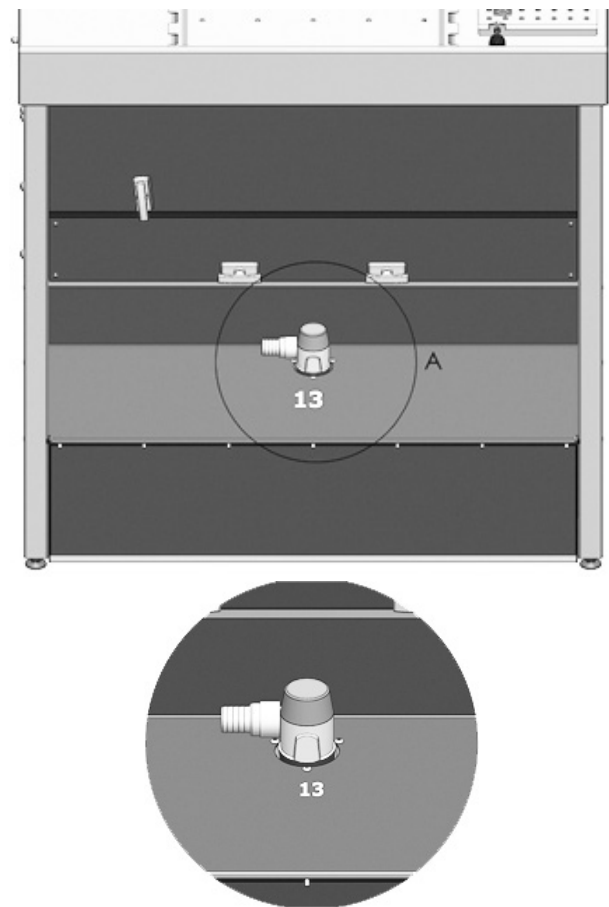

Fig. 8
Installing the wastewater pump for drains at higher levels (13) Fig. 8